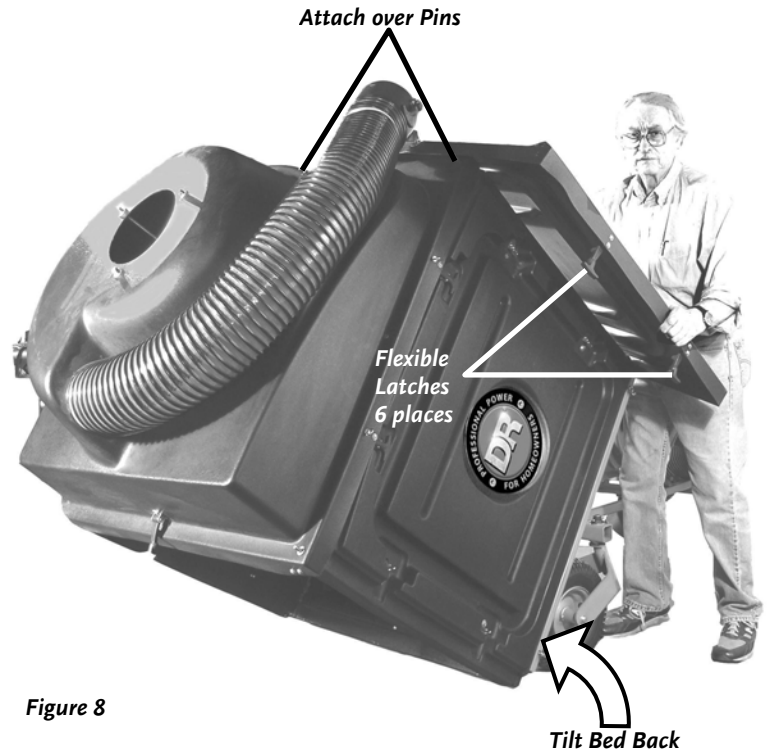

Figure 8
- Attach the front enclosure panel on the protruding support pins and fasten the sides, top and bottom using the six (6) flexible latches (**Figure 8**). Note the difference between the front and rear panels. The rear panel has the metal edge supports. The mounting holes are located on top of the panels.
**Tip:** For ease of attaching the front cover, release the Dump Latch and tilt the body back. Set the front panel over the protruding pins, one side at a time, making certain that the six (6) flexible latches are on the outside of the panels (**Figure 8**).